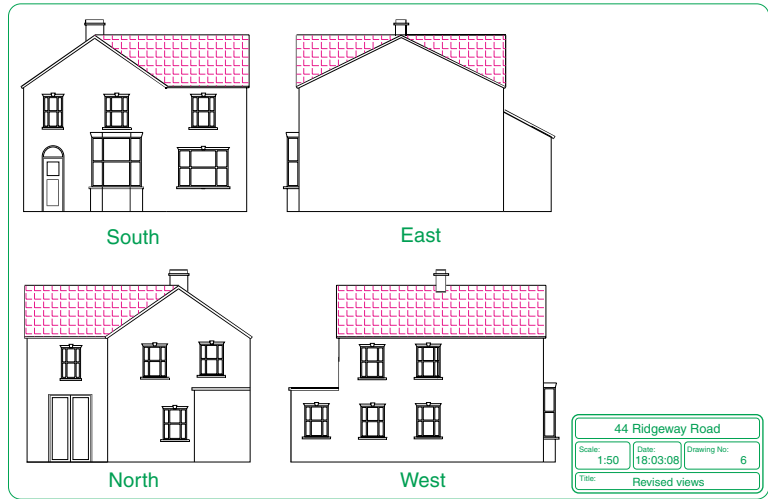

Fig. 12.6 Views including the proposed extension
6. Views of all four sides of the house including the proposed extension, drawn to a scale of **1:50** (Fig. 12.6).